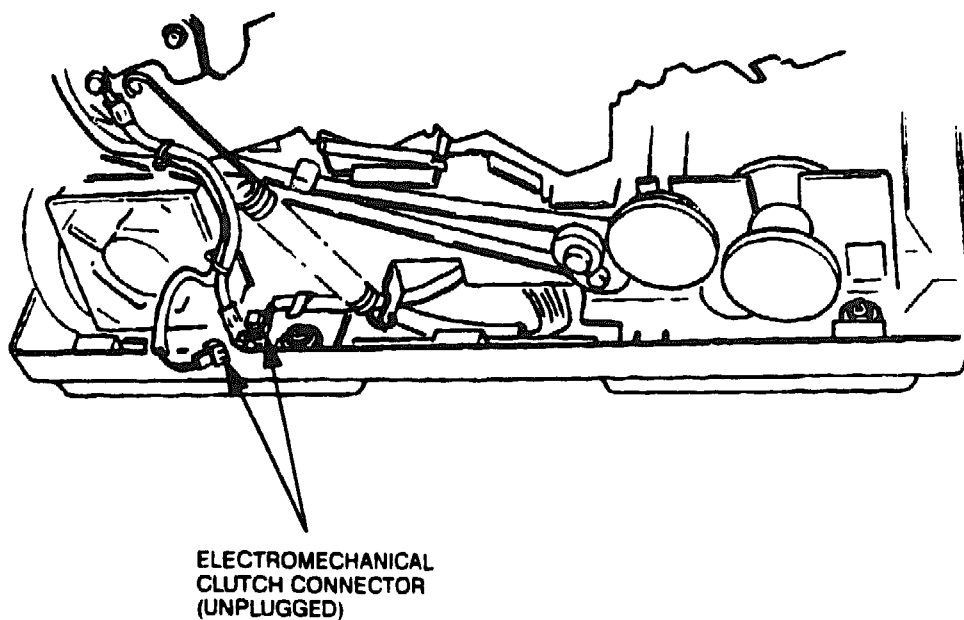

Figure 6-56 Electromechanical Clutch Connector
6. Unplug the electromechanical clutch cable connector on the lower side plate (L) as shown in Figure 6-56.